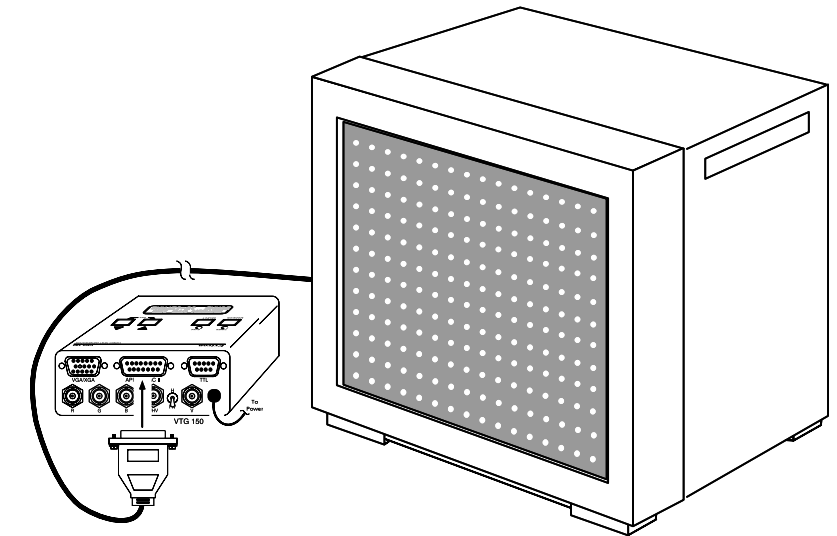

Figure 4-8A VTG 150 Apple/Mac II Dot Test Pattern.
- Color convergence or registration can be done using any of the crosshatch or dot patterns. (See figures 4-8A & 4-8B.)